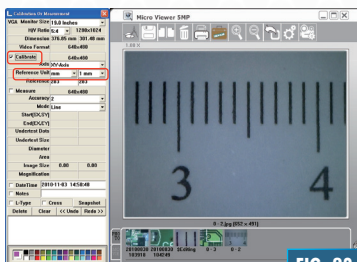

FIG. 23
1. Place a scale under the camera and adjust the focus knob until the image is sharp (**Fig. 23**).